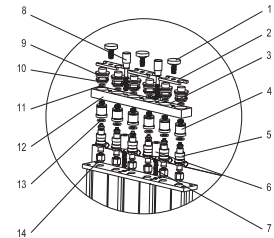

Figure.05
- According to the height of the injector, select the appropriate adjusting screw and knurled nut to be mounted on the oil separator bracket, install the oil separator assembly and the fuel injector on the oil separator bracket, and evenly tighten the two rollers. Flower screw (black). The installation diagram is shown in Figure.05.